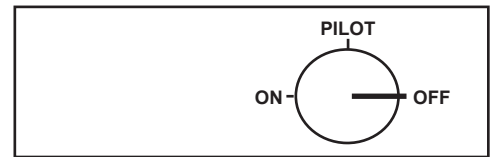

Figure 8- Rotate control valve to Off Position for both Pilot and Burner shutdown
- N. Spread Glowing Embers (Log Kit Part #17) evenly over the top of the granules covering the entire surface area, concentrating on the front and sides of the burner pan as shown (Figures 8 & 9) for the most realistic burning effect.
To turn off the gas supply to the Main Burner Pan and the Pilot Burner move the Control Knob clockwise from the Pilot Position to the "OFF" Position (*See Figure 8*).